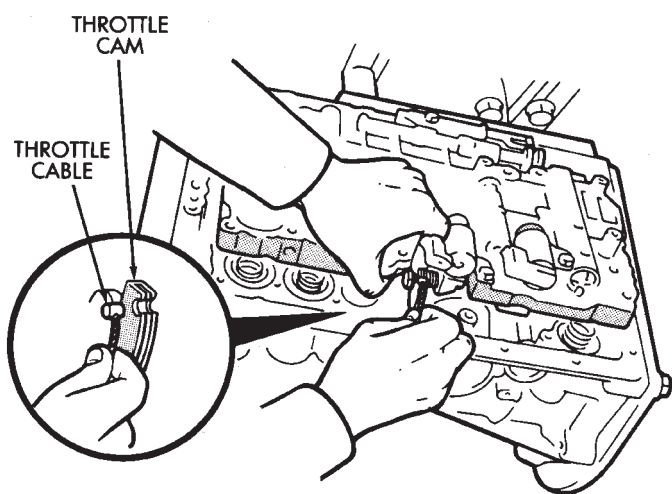

Fig. 60 Connecting Transmission Throttle Cable
- (78) Connect transmission throttle cable to throttle valve cam (Fig. 60).
- (79) Install and tighten valve body-to-case bolts to 10 N•m (7 ft. lbs.) torque.